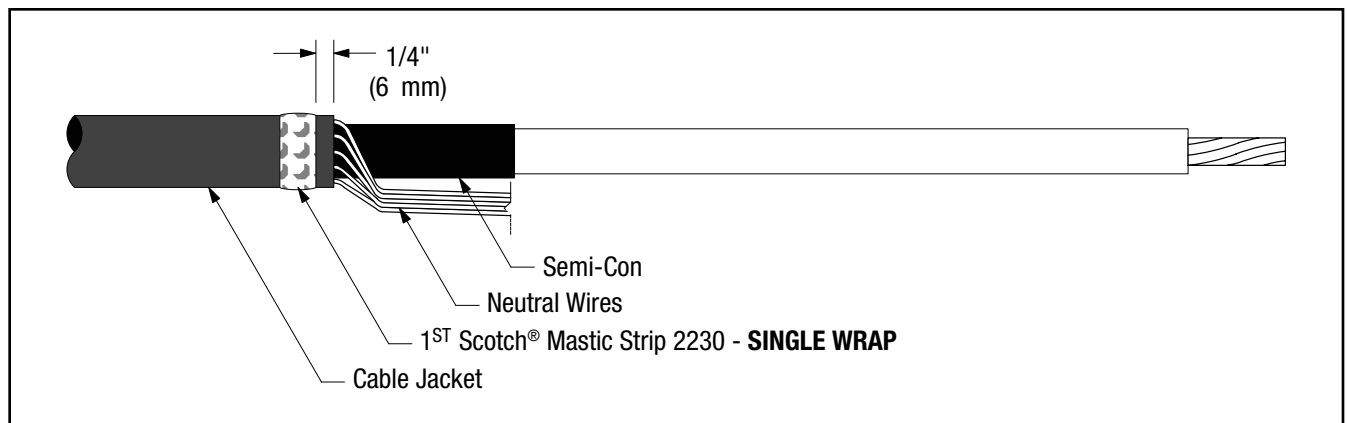

Figure 2
- 2.5 Select a Scotch® Mastic Strip 2230 from kit and remove white release liners. Using light tension, apply a **SINGLE WRAP** of mastic around the cable jacket 1/4" (6 mm) from cut edge (Figure 2). Cut off excess.